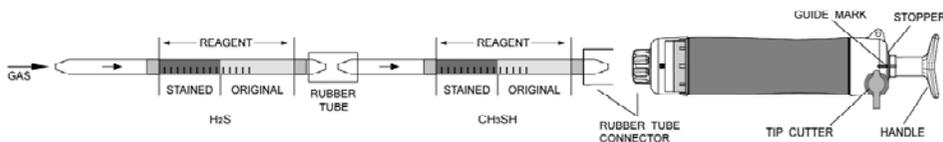

Fig.1
- ① Break both ends of detector tube, and connect each end of detector tubes with a rubber tube as shown in Fig.1. (Arrow mark shall point to the pump.)
- ② Insert the MERCAPTANS detector tube into aspirating pump securely as shown in Fig.1. (Arrow mark shall point to the pump.)
- ③ Align the guide marks on the shaft and stopper of the aspirating pump.
- ④ Pull the pump handle at full stroke until it locks and wait for 3 minutes or until the completion of sampling is confirmed with the flow indicator of the pump (See descriptions about the flow indicator in the instructions of the pump).
- ⑤ On completion of sampling, read the scale at the maximum point of the stained layer.
- ① Temperature; No corrections is necessary.
- ② Humidity; No corrections is necessary.
- ③ Atmospheric Pressure;